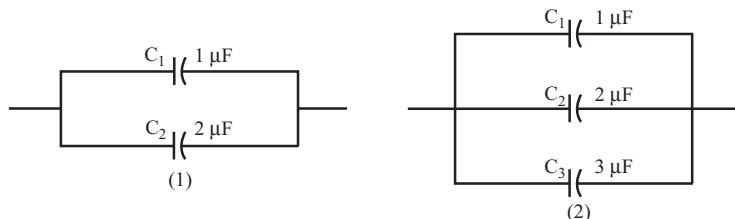

FIGURE 1.18
- 41** Capacitors can be connected in parallel, as shown in Figure 1.18.